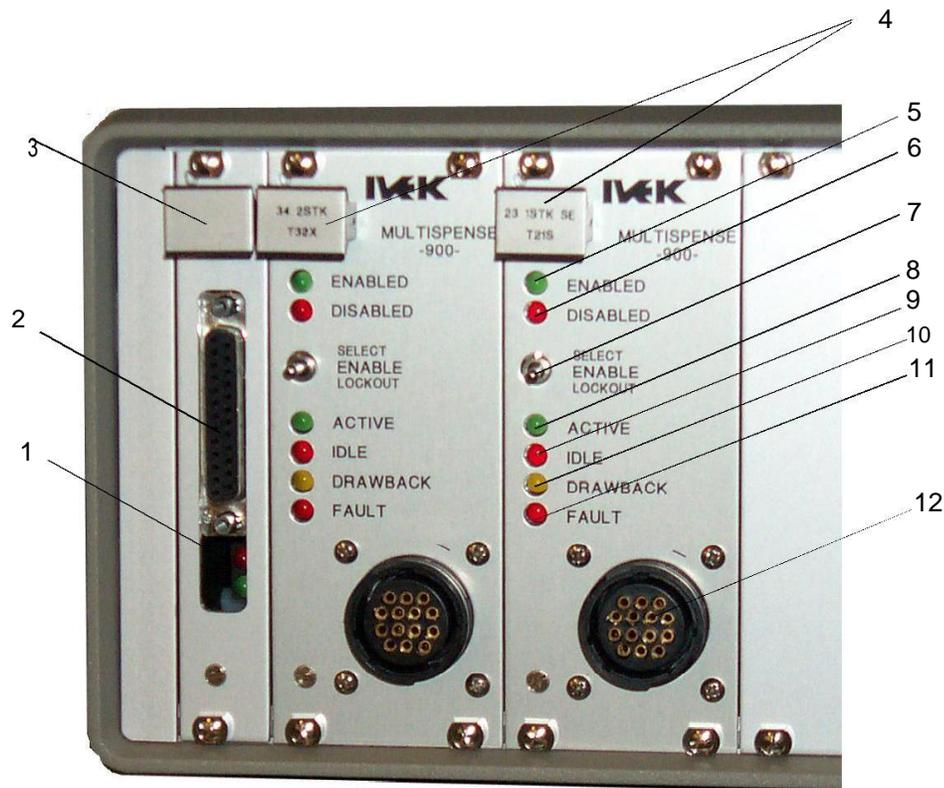

Figure 3.1 Multispense 900 Controller Module Front Panel
3.1.1 Front Panel Controls & Indicators (Figure 3.1)
3.1.1.1 Master Plug-In Front Panel (Figure 3.1 Item 3)
3.1.1.2 Channel Plug-In Front Panel (Figure 3.1 Item 4)